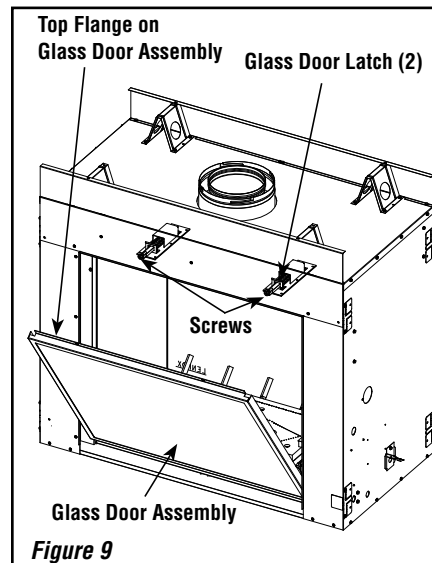

Figure 9
### Removing Glass Doors, Mesh Pull Screens, and Modesty Panel (see Figure 9)
- a) See **Figure 9**. While holding the top of the glass door frame in place, use a #3 Phillips screwdriver to remove the two (2) screws securing the door frame to the two (2) door latches.
- b) Carefully tilt the top of the glass door frame away from the unit (as shown in **Figure 9**), and then lift the door assembly up and out of the lower track.
### Installing Glass Doors, Mesh Pull Screens, and Modesty Panel (see Figure 9)
- b) Position the door in front of the firebox opening, with the top of the door held away from the fireplace (see **Figure 9**).
- d) Using a #3 Phillips screwdriver, fasten the door frame to the door latches with the two (2) latch screws. The latches should pull forward to engage the door frame.